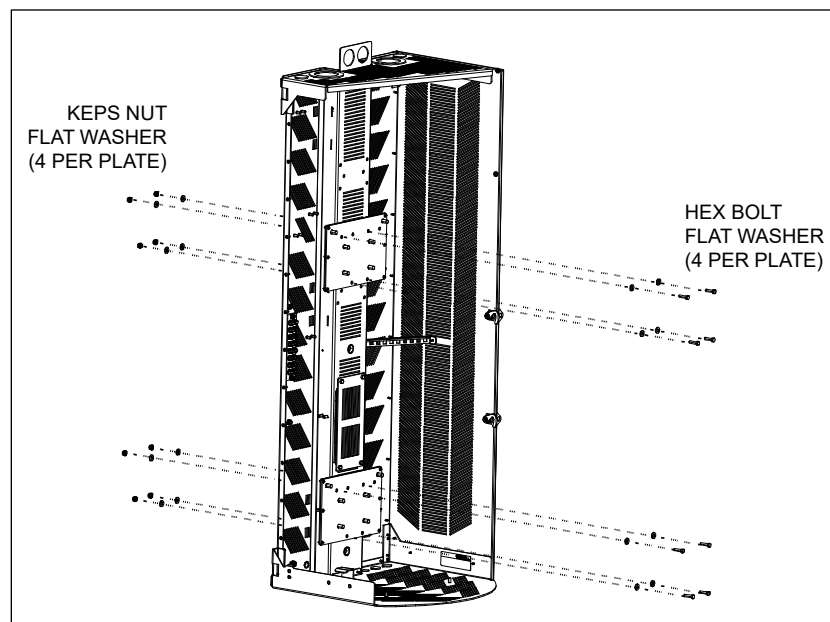

Figure 4
4. When the paint is dry, mount the support plates to these newly drilled holes using 1/4-20 hex bolts (1'' long) with flat washers and Keps nuts (Figure 4).